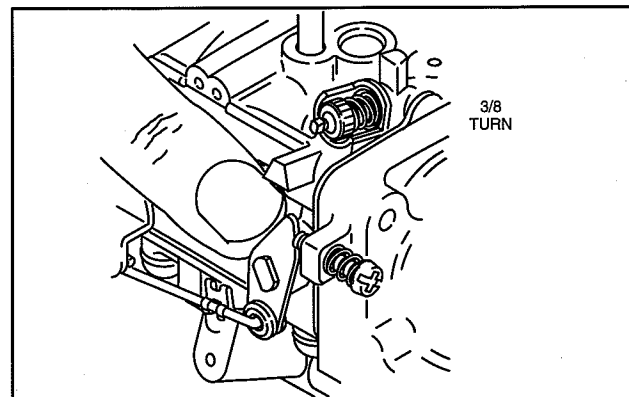

Fig. 143 – Adjust Idle Mixture
4. Then turn idle mixture screw counterclockwise 3/8 turn, Fig. 143.